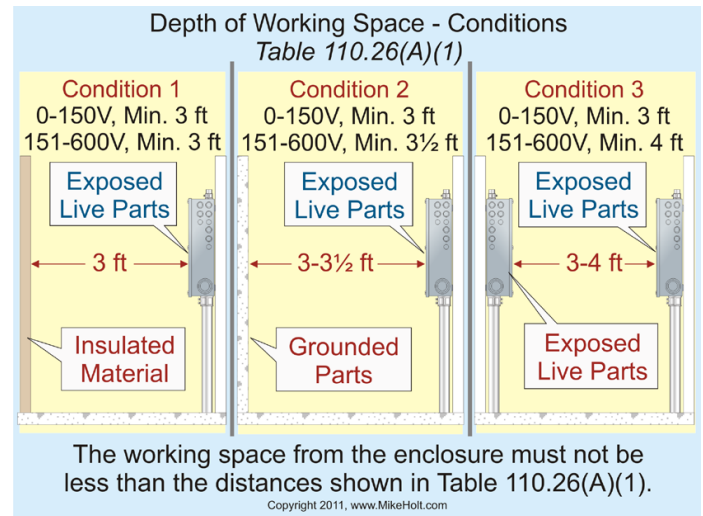

Figure 110-20
(1) Depth of Working Space. The working space, which is measured from the enclosure front, must not be less than the distances contained in Table 110.26(A)(1). **Figure 110-20**